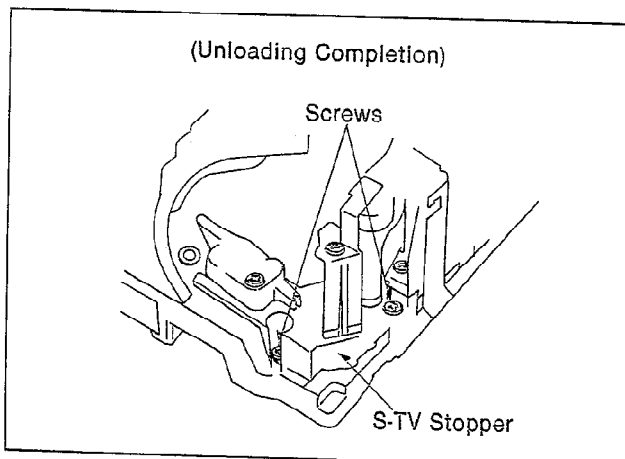

Fig. M17
- (3). Install the S-TV Stopper and then tighten the 2-Screws as shown in Fig. M17.